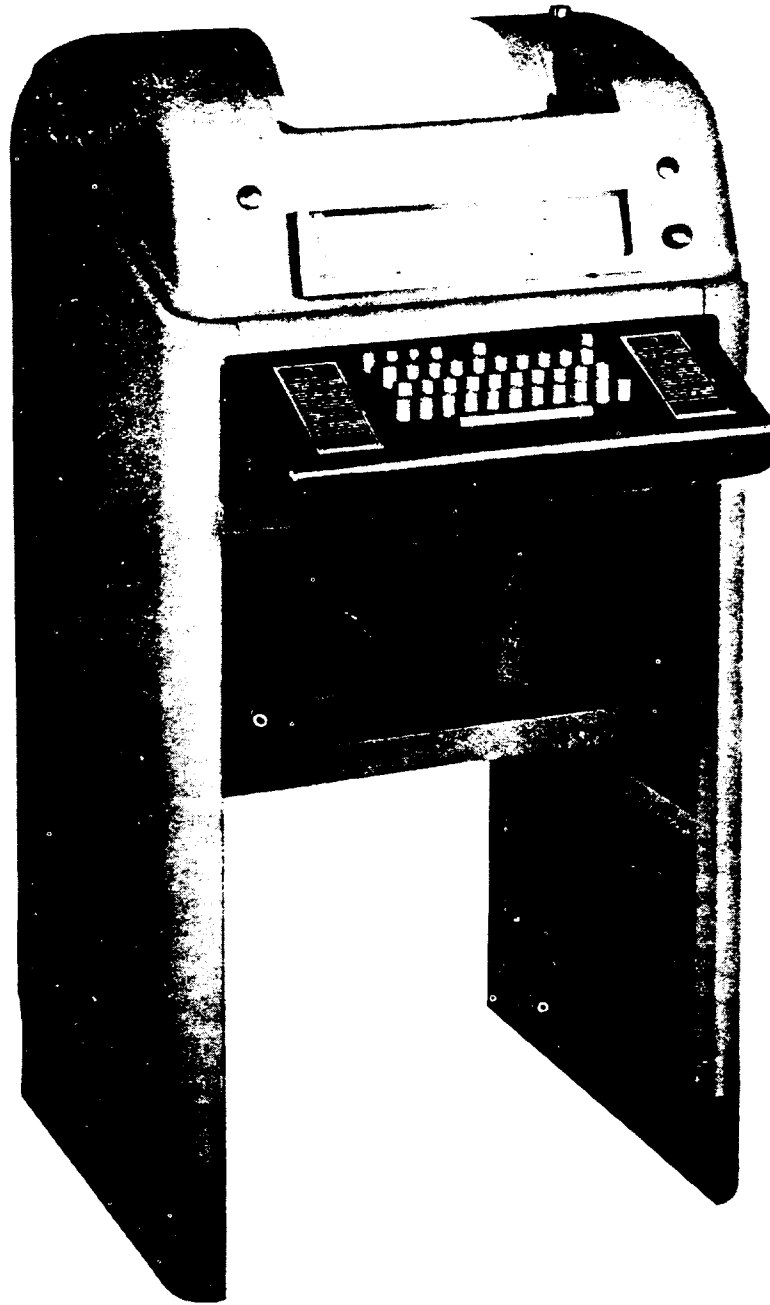

Fig. 1 - 28 Type Teletypewriter (Cover Down)
2.01 The cabinet is of the console type illustrated in Fig. 1. It is of sheet metal construction and is finished internally and